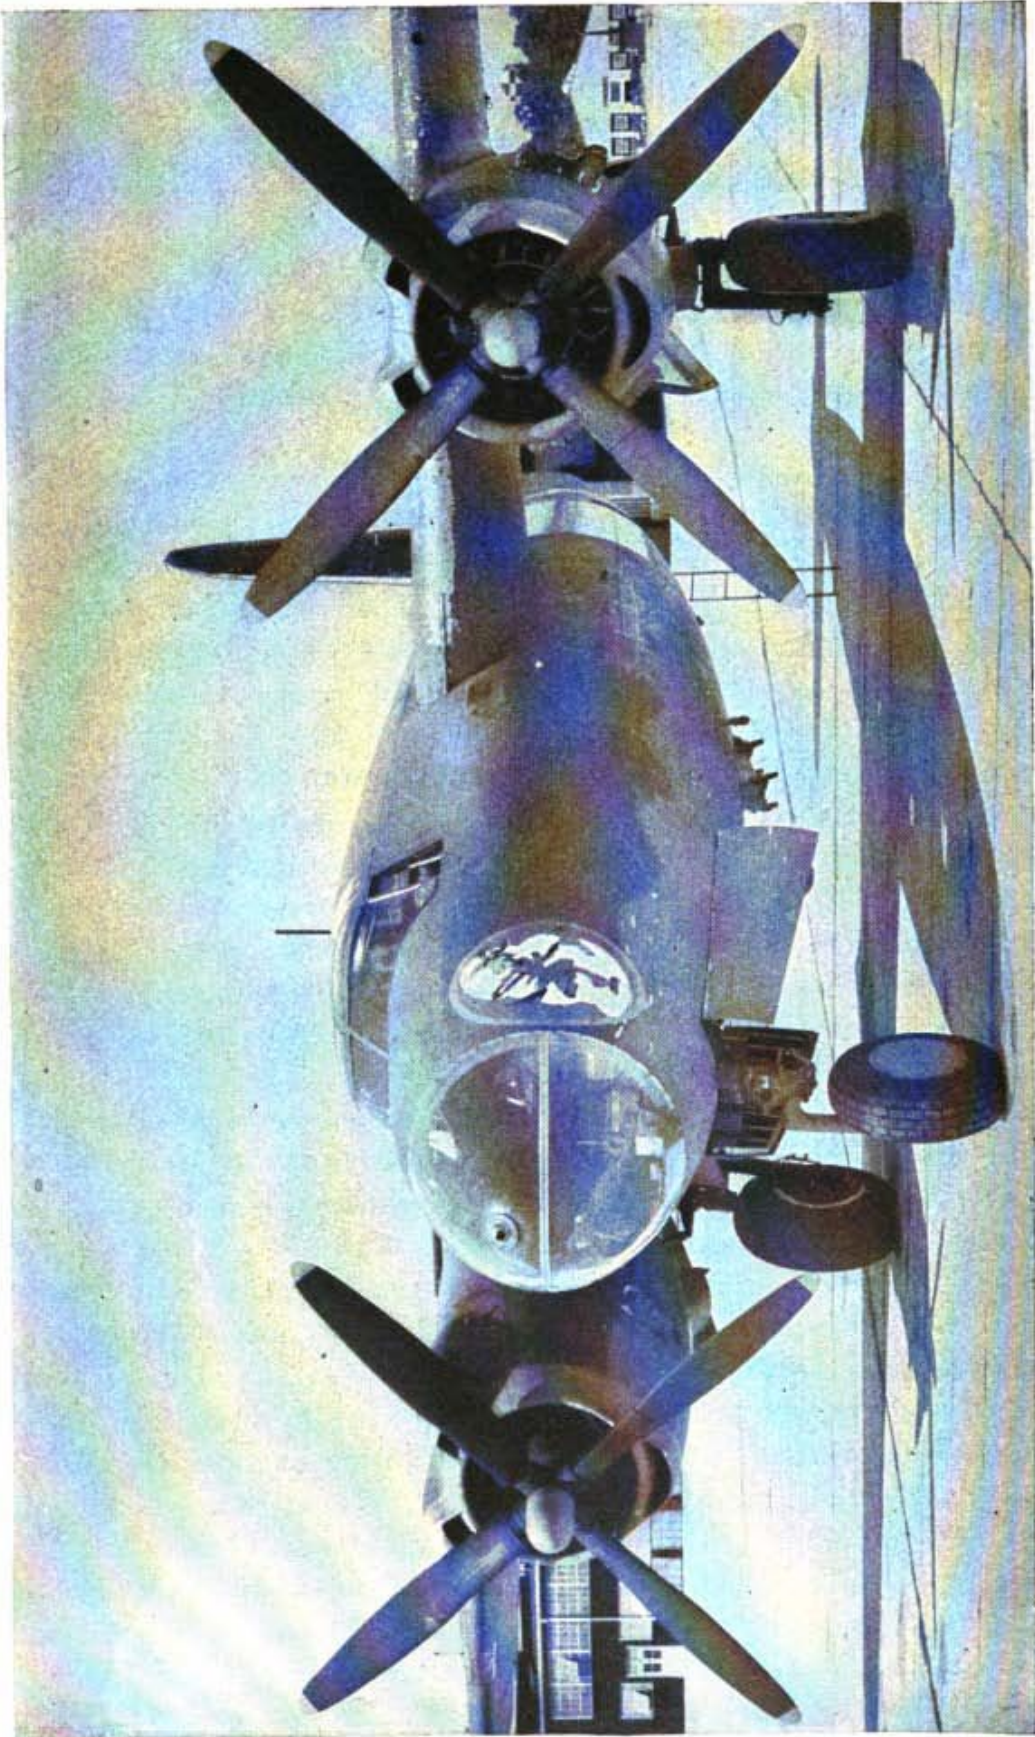

Figure 1. Engines mounted in wing nacelles.
a. In early airplanes, the engine, propeller, and accessories were quite simple and were usually mounted in the same position on all airplanes. However, modern installations vary widely because each type of airplane is designed for specific performance requirements. Figure 1 shows an airplane with engines mounted in the wing nacelles and supported by a welded steel engine mount. Installations of this kind are common to the bombardment type of aircraft which employs high horsepower-output engines. Figure 2 shows the installation of a power plant in the fuselage proper, behind the cockpit. This provides greater range of vision for the pilot and permits the installation of a propeller through which a cannon may be fired. Figure 3 illustrates a radial type engine mounted in the nose section. The liquid-cooled engine is also readily adapted to use in this location. Even though the aircraft engine is a complex unit, it is so constructed that comparatively few bolts and connections need to be handled in the process of removal and installation.